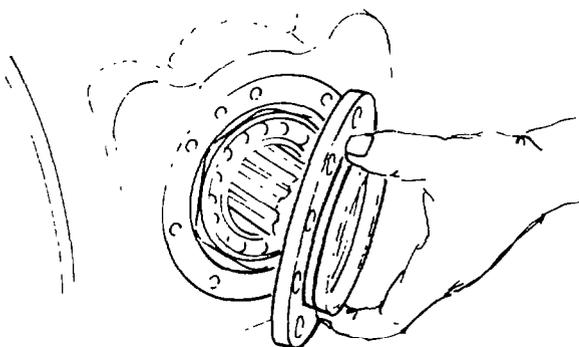

Fig. 273 — Removing Rear Bearing Cover
- m. Remove the rear bearing cover retaining bolts and remove the bearing cover by inserting two 3/8 in. — 16 UNC bolts in the threaded holes in the bearing cover and turning the bolts evenly and alternately (see fig. 273).